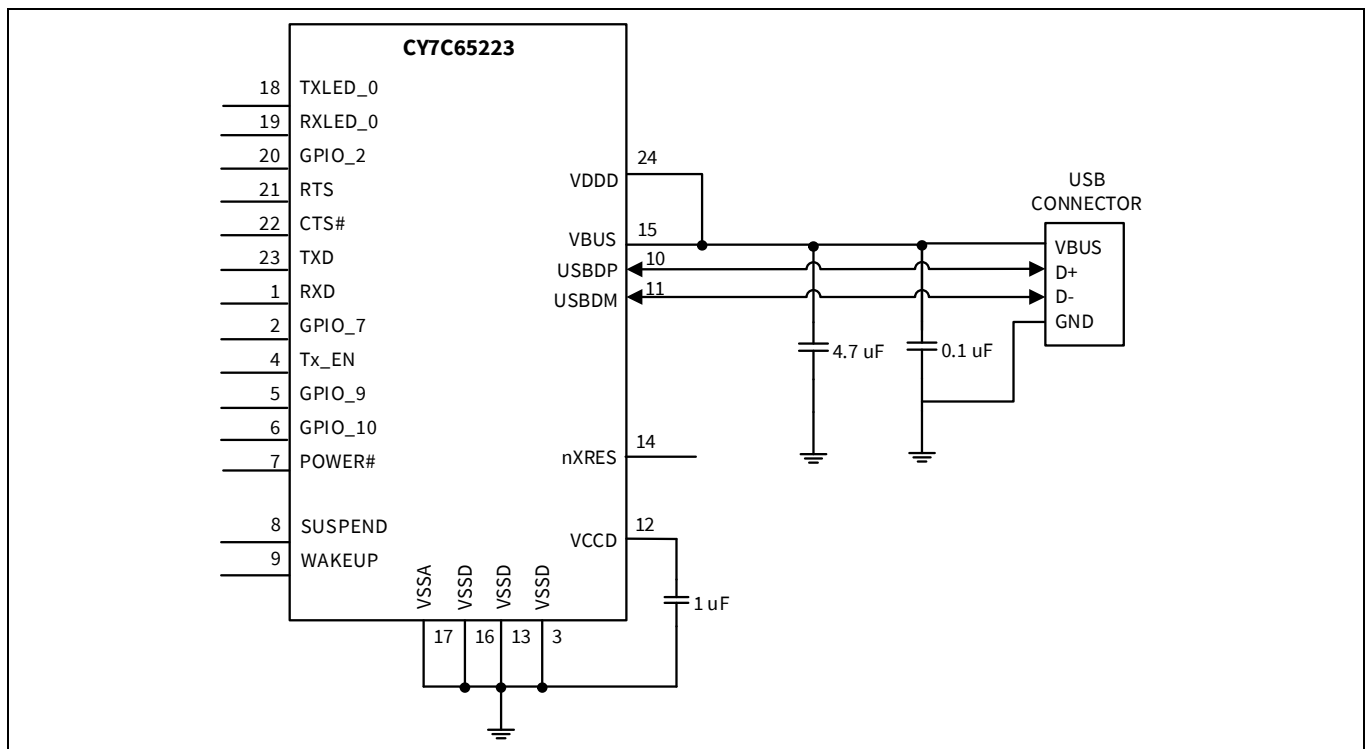

**Figure 3 Bus-powered configuration**
**Figure 3** shows an example of the CY7C65223 in a bus-powered design. The VBUS is connected directly to the CY7C65223 because it has an internal regulator.